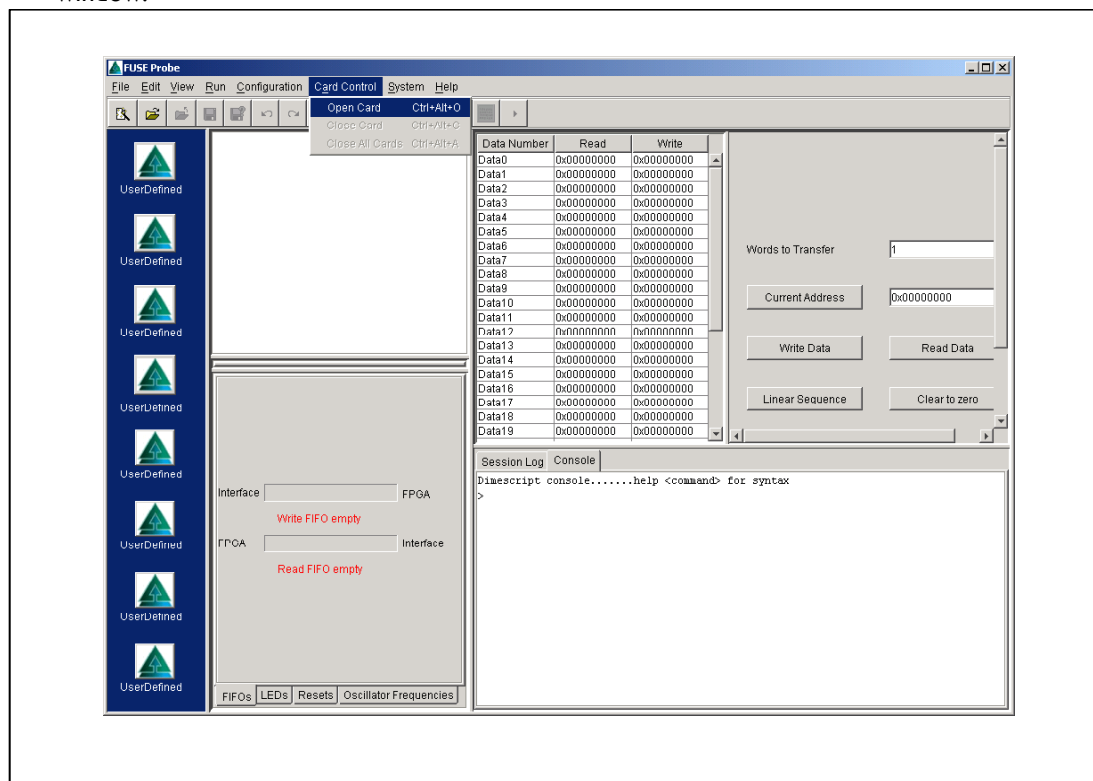

Figure 3: FUSE System Software GUI
2. When the user interface is loaded there are no cards open. In the FUSE Probe program window shown in Figure 3, select **Card Control\Open card** from the menu at the top of the window.